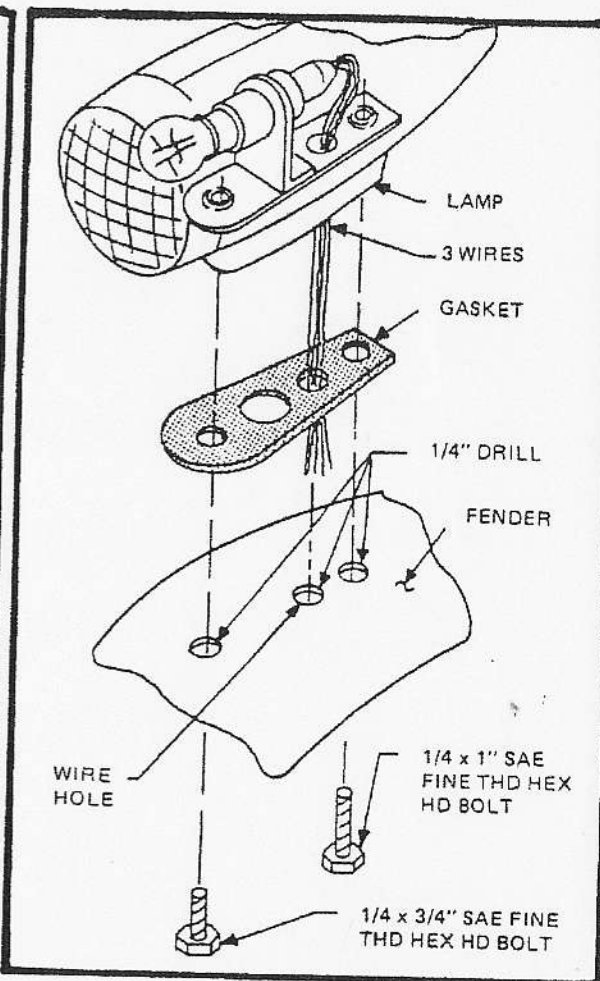

Figure 64
- Using the rubber gasket as a guide, locate the holes for the parking light on the top of the front fender. Move the gasket back and forth until the extreme top of the fender is found. (Figure 64) Drill as indicated for two mounting screws and wires. ($1/4''$). Attach leads to lights at this time to facilitate hook